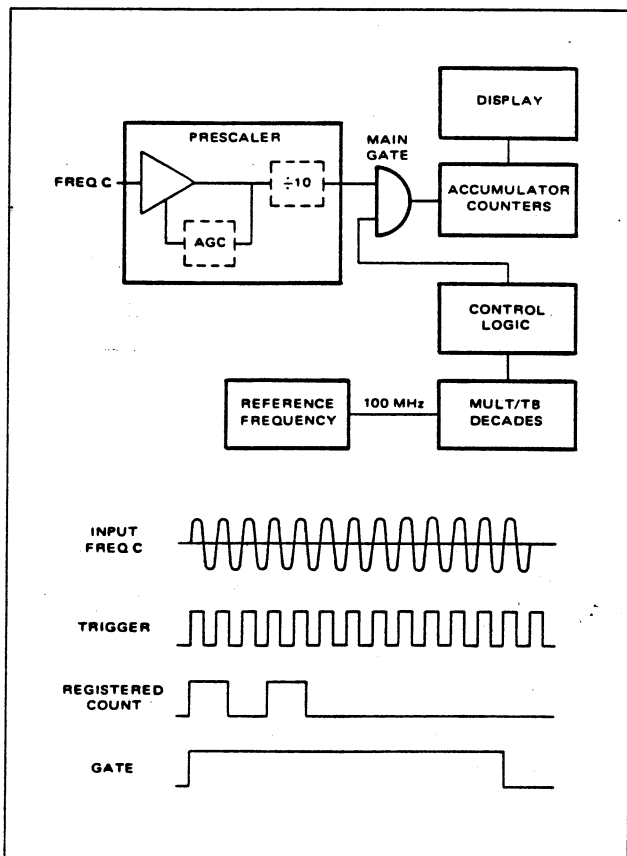

Figure 4.6 - Frequency C
4.3.6.1 In the Frequency C mode, the signal of unknown frequency is applied to the main gate through the prescaler (406793). The prescaler includes an amplifier, automatic gain control circuit, and a divide-by-ten circuit (Figure 4.6).